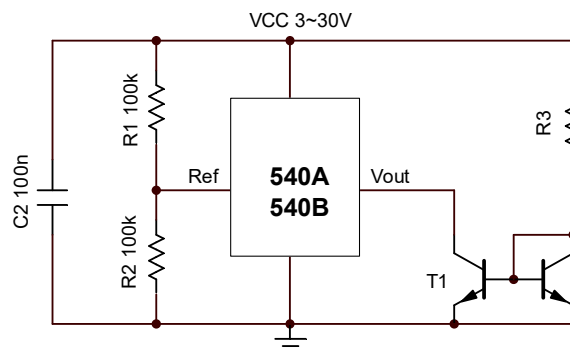

Figure 8 Typical circuit2
**Figure 8** is the alternative application circuit.